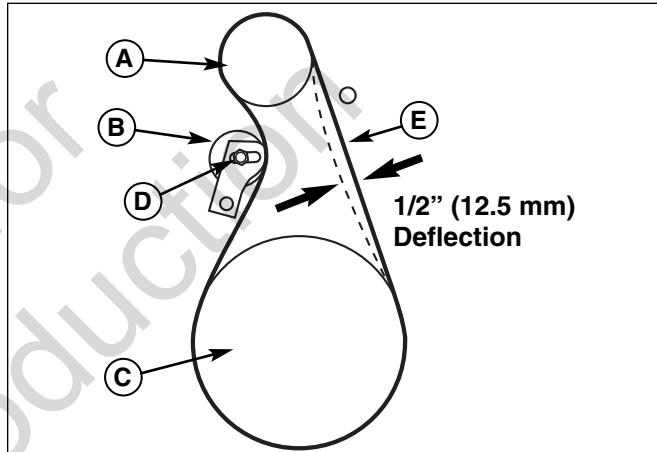

Figure 27. Auger Belt Deflection
3. Loosen nut (D, Figure 27) on auger idler pulley (B) and move auger idler pulley towards belt about 1/8 inch (3 mm).
4. Tighten nut (D).
5. Engage auger drive clutch. Check tension on belt (opposite idler pulley). Belt should deflect about 1/2 inch (12.5 mm) with moderate pressure (see Figure 27). You may have to move the idler pulley more than once to obtain the correct tension.